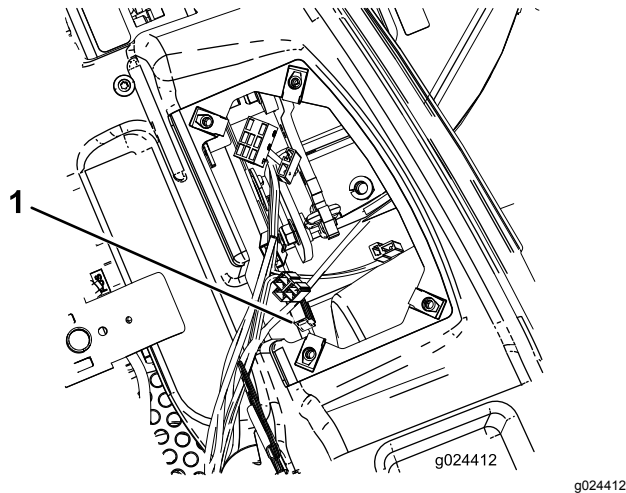

Figure 47
3. Grasp the engine fuse and pull it straight and away from the fuse block (Figure 47).